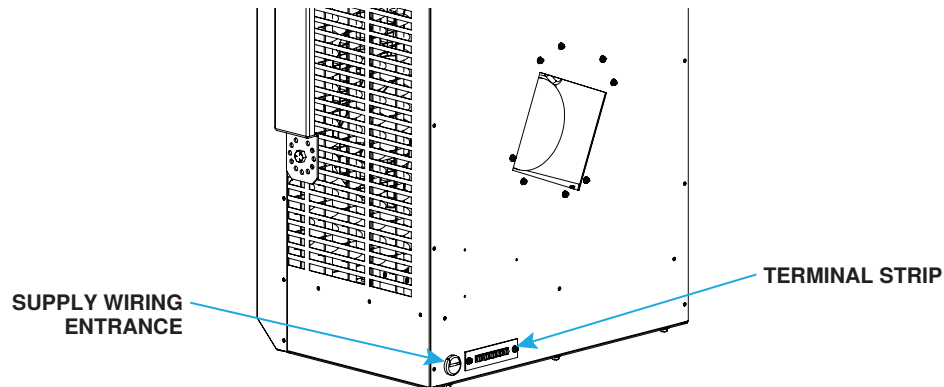
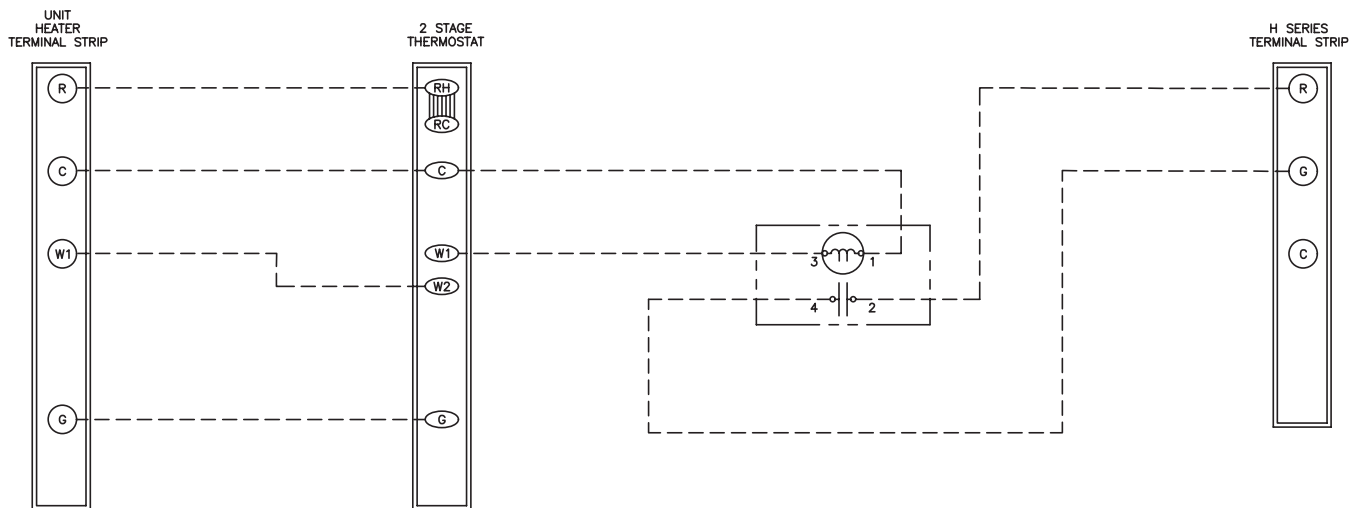

Figure 4. Supply Wiring Entrance and Control Connection Terminal Strip
Figure 5. Heater and Destratification Fan Wiring Diagram
3. Route supply wiring through entrance shown in Figure 4 and connect to 3-pole contactor shown in Figure 4.
The terminal strip for 24V control connections is located on the outside of the cabinet at the back of the unit, as shown in Figure 4. The strip has five terminals: C, R, G, W1, and W2. The thermostat connections are the C (optional), R, G, and W1. If the installation features a heater and a model H destratification fan controlled by a single two-stage thermostat, ensure that the wiring is in accordance with the wiring diagram shown in Figure 5.